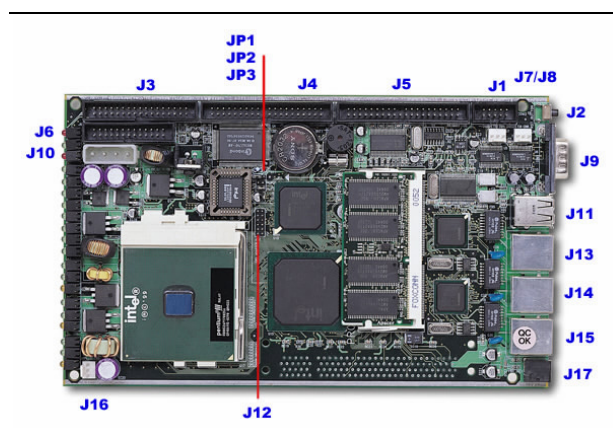

Fig. 2-43 Jumper Position
In general, jumpers on PPAP-200 system board are used to select options for certain features. Some of the jumpers are configurable for system enhancement. The others are for testing purpose only and should not be altered. To select any option, cover the jumper cap over (Short) or remove (NC) it from the jumper pins according to the following instructions. Here NC stands for “Not Connected”. (Please refer to **Fig. 2-43** for detailed jumper positions.)